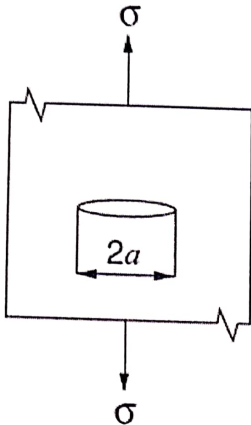

Figure 1: Illustration of the fracture behavior of a centrally cracked plate loaded in uniform remote tension
- b) The concept of crack tolerance and residual strength can be understood by considering the fracture behavior of a plate, containing a central crack of length $2a$, loaded in remote tension under uniform stress σ as shown in Figure 1.